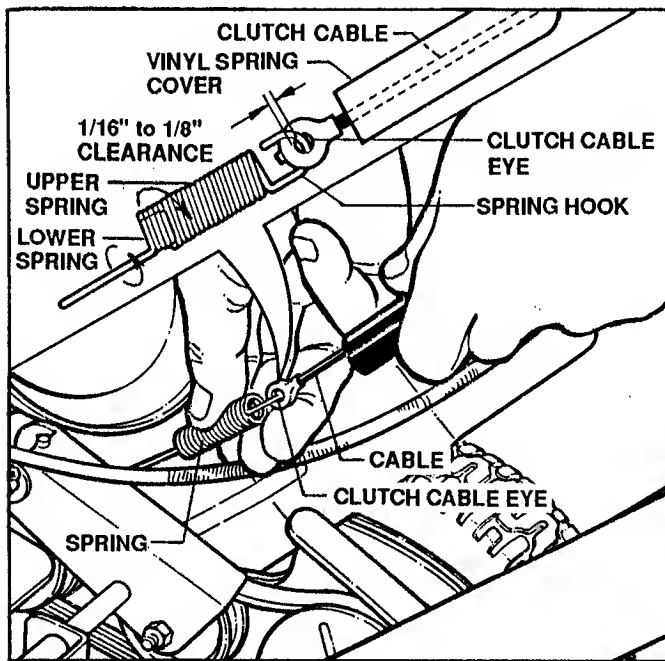

FIGURE 3.9
- A. The wheel drive control is properly adjusted when there is 1/16" to 1/8" clearance between the inside of the spring hook and the inside of the clutch cable eye when disengaged. See Figure 3.9.